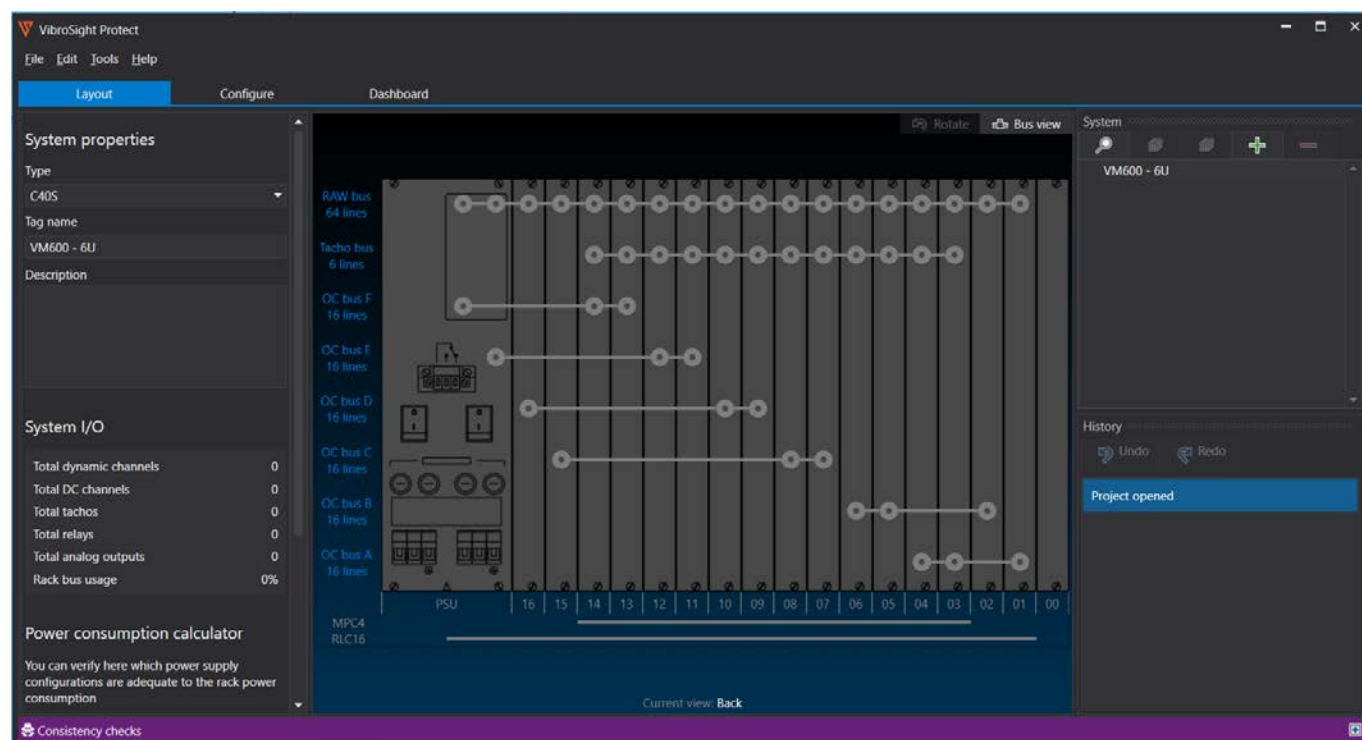

Figure 1: VibroSight Protect Bus view (rear of rack)
As shown in Figure 1, the Bus view displays an overall summary view of the VM600 rack buses:
- Open Collector (OC) Bus view – OC Bus F to OC Bus A, all 16 lines, on the third to eight rows.
The Bus view in Figure 1 shows a VM600 rack that does not have any MPSG2 cards configured so the Tacho, Raw and Open Collector (OC) buses are not yet used. More specifically, the actual buses (circles and horizontal lines between cards) are shown in grey when the bus is not used/configured and shown in blue when the bus is used/configured.